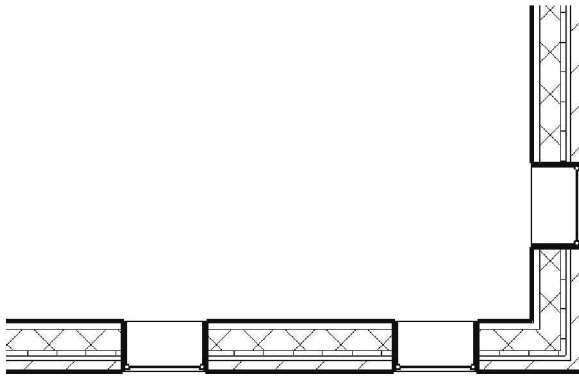

FIGURE 8-2.2 Level 1 – south-east corner
5. Switch to **Level 1** plan view; notice the window is added (Figure 8-2.2).
*TIP: If the window is towards the inside, use the control arrows to flip the window within the wall. It should look like the window in Figure 8-2.2.*
11. Add the same layout of windows (Figure 8-2.2) to the West elevation.